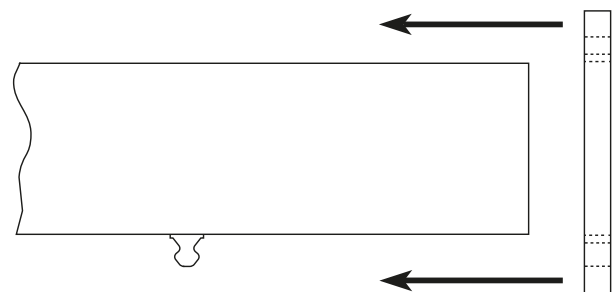

Figure 81: TRLAXLE Install Weld Mount Bracket on Cam Tube
3. Slide the cam tube mounting bracket onto the end of the cam tube assembly (Figure 81) until it contacts the Cam bracket L leg.